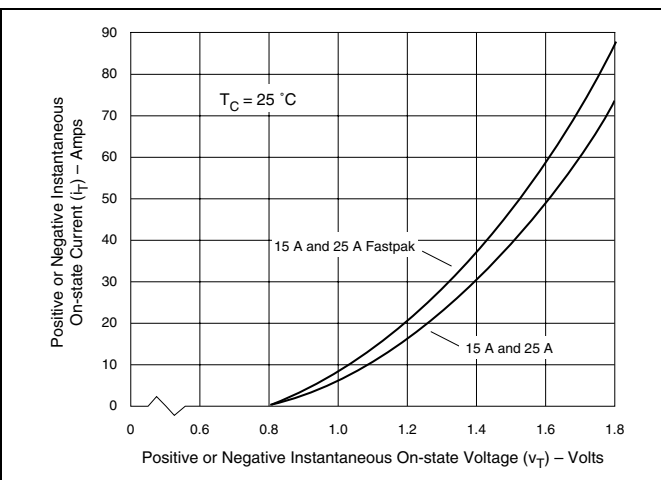
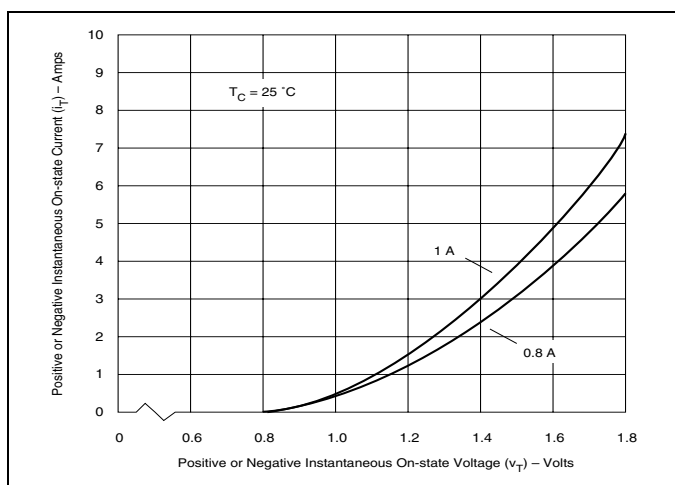

Figure E2.10 On-state Current versus On-state Voltage (Typical) (15 A and 25 A)
Figure E2.8 On-state Current versus On-state Voltage (Typical) (0.8 A and 1 A)
- (5) See Figure E2.8 through Figure E2.10 for i_T versus v_T .